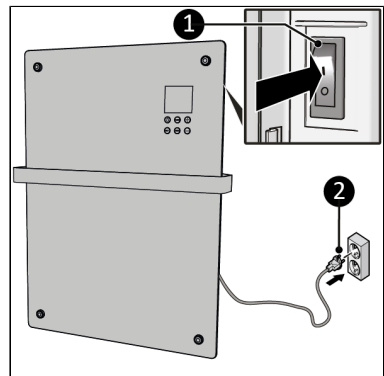

Figure 31.
2. Make sure the ON/OFF switch is in the OFF position (Figure 31, pos. 1).
3. Place the power plug (Figure 31, pos. 2) into an earthed wall socket that is easily accessible. Use an earthed wall socket with a minimum power of 1200 Watt.